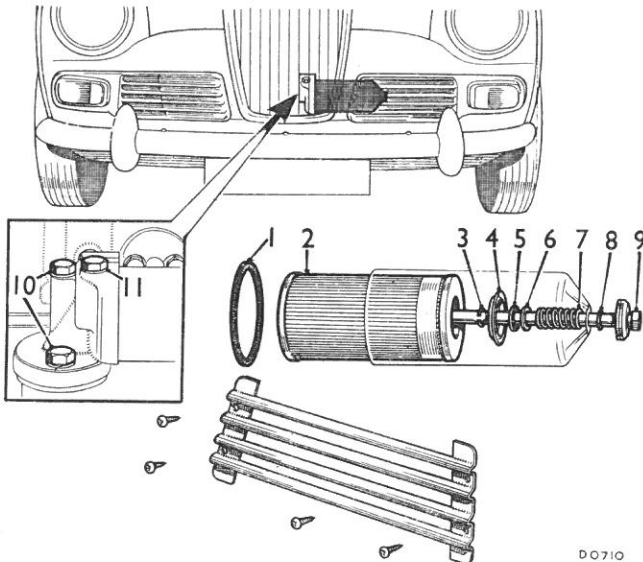

Fig. Aa.1
- (1) Remove the front left-hand grille (Fig. Aa.1).
- (2) Place a suitable container beneath the oil filter.
- (3) Unscrew the central retaining bolt and remove the bowl and element assembly.
- (6) Reassemble the filter bowl with a new element and the internal components fitted in the order shown in Fig. Aa.1. Ensure that the internal seating washer is in good condition and a snug fit on the retaining bolt.
- (7) Refit the filter bowl assembly and tighten the central retaining bolt to the torque figure given in 'GENERAL DATA'.
- (8) Check for oil leakage immediately the engine is started.
- (9) Top up the engine oil level following the instructions in Section Aa.1.
- (10) Refit the front left-hand grille.